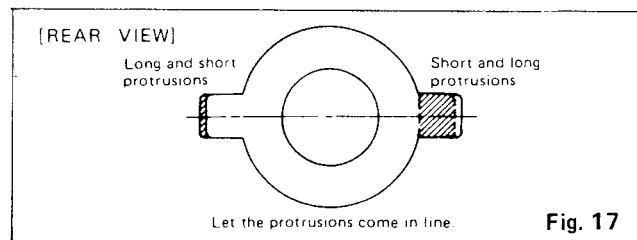

Fig. 17
2. Let the purity tabs come in line horizontally as is shown in Fig. 17. A long tab should be in the same direction as the other short tab.